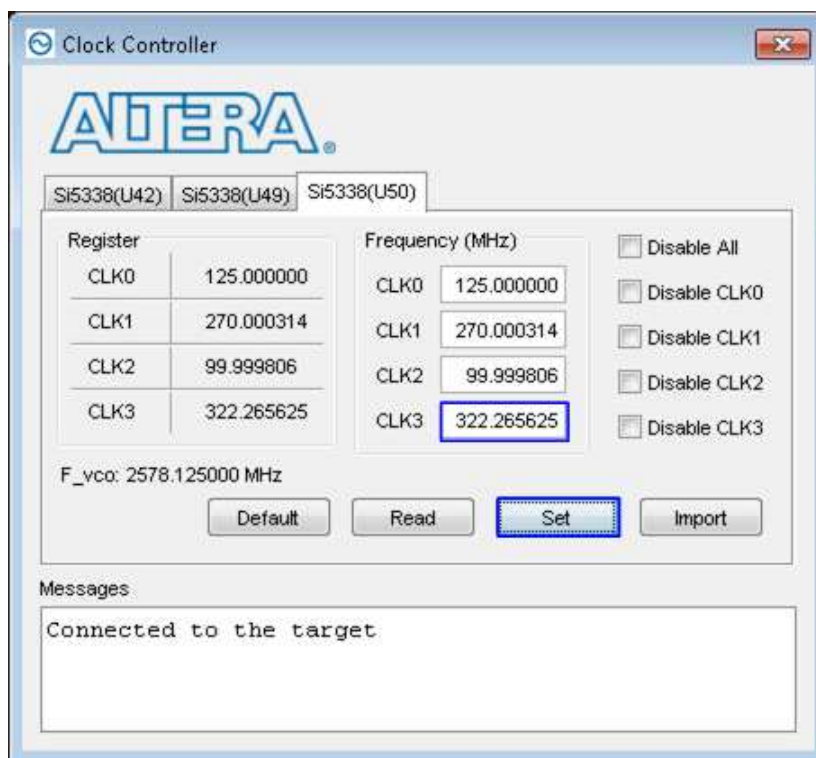

Figure 3-4 Reference clock programming
- Open “Clock Controller” application which is provided in Arria10 SoC release package. Select Si5338(U50) tab, and set CLK3 value to be “322.265625”. Click “Set” button to program clock to be 322.265625 MHz, as shown in Figure 3-4.